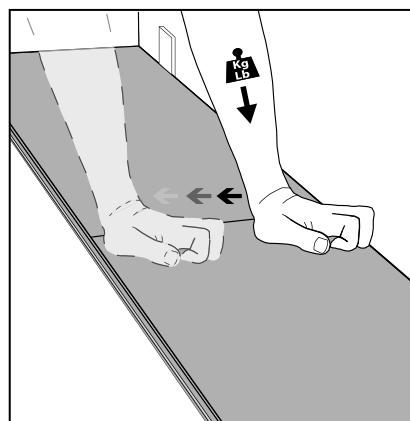

Figure 13 Ensure joints are fully engaged on the short sides
► Press firmly down on the short end of the next panel into the corresponding short edge of the first one, you should audibly hear these lock securely together. Using hand pressure gently push down the short joints along the short end just installed. (Fig 13).